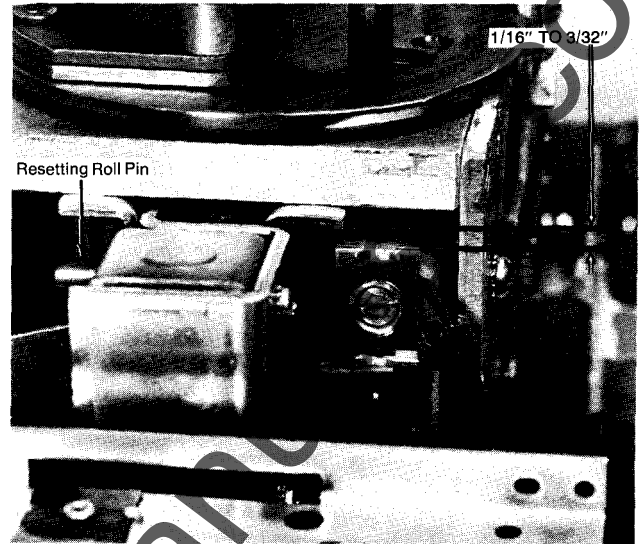

Fig. 7. View of shunt trip and auxiliary switch installation
- c. Position unit to provide 1/16-inch to 3/32-inch gap, as shown in Fig. 7, and tighten screws to 15-inch pounds torque.
3. Insert the leads through the knockout and position them, as shown in Fig. 7, with tape to ensure that leads will not be pinched under the breaker mounting pads during installation. Check the leads at the undervoltage release device to be sure they do not interfere with any moving parts.